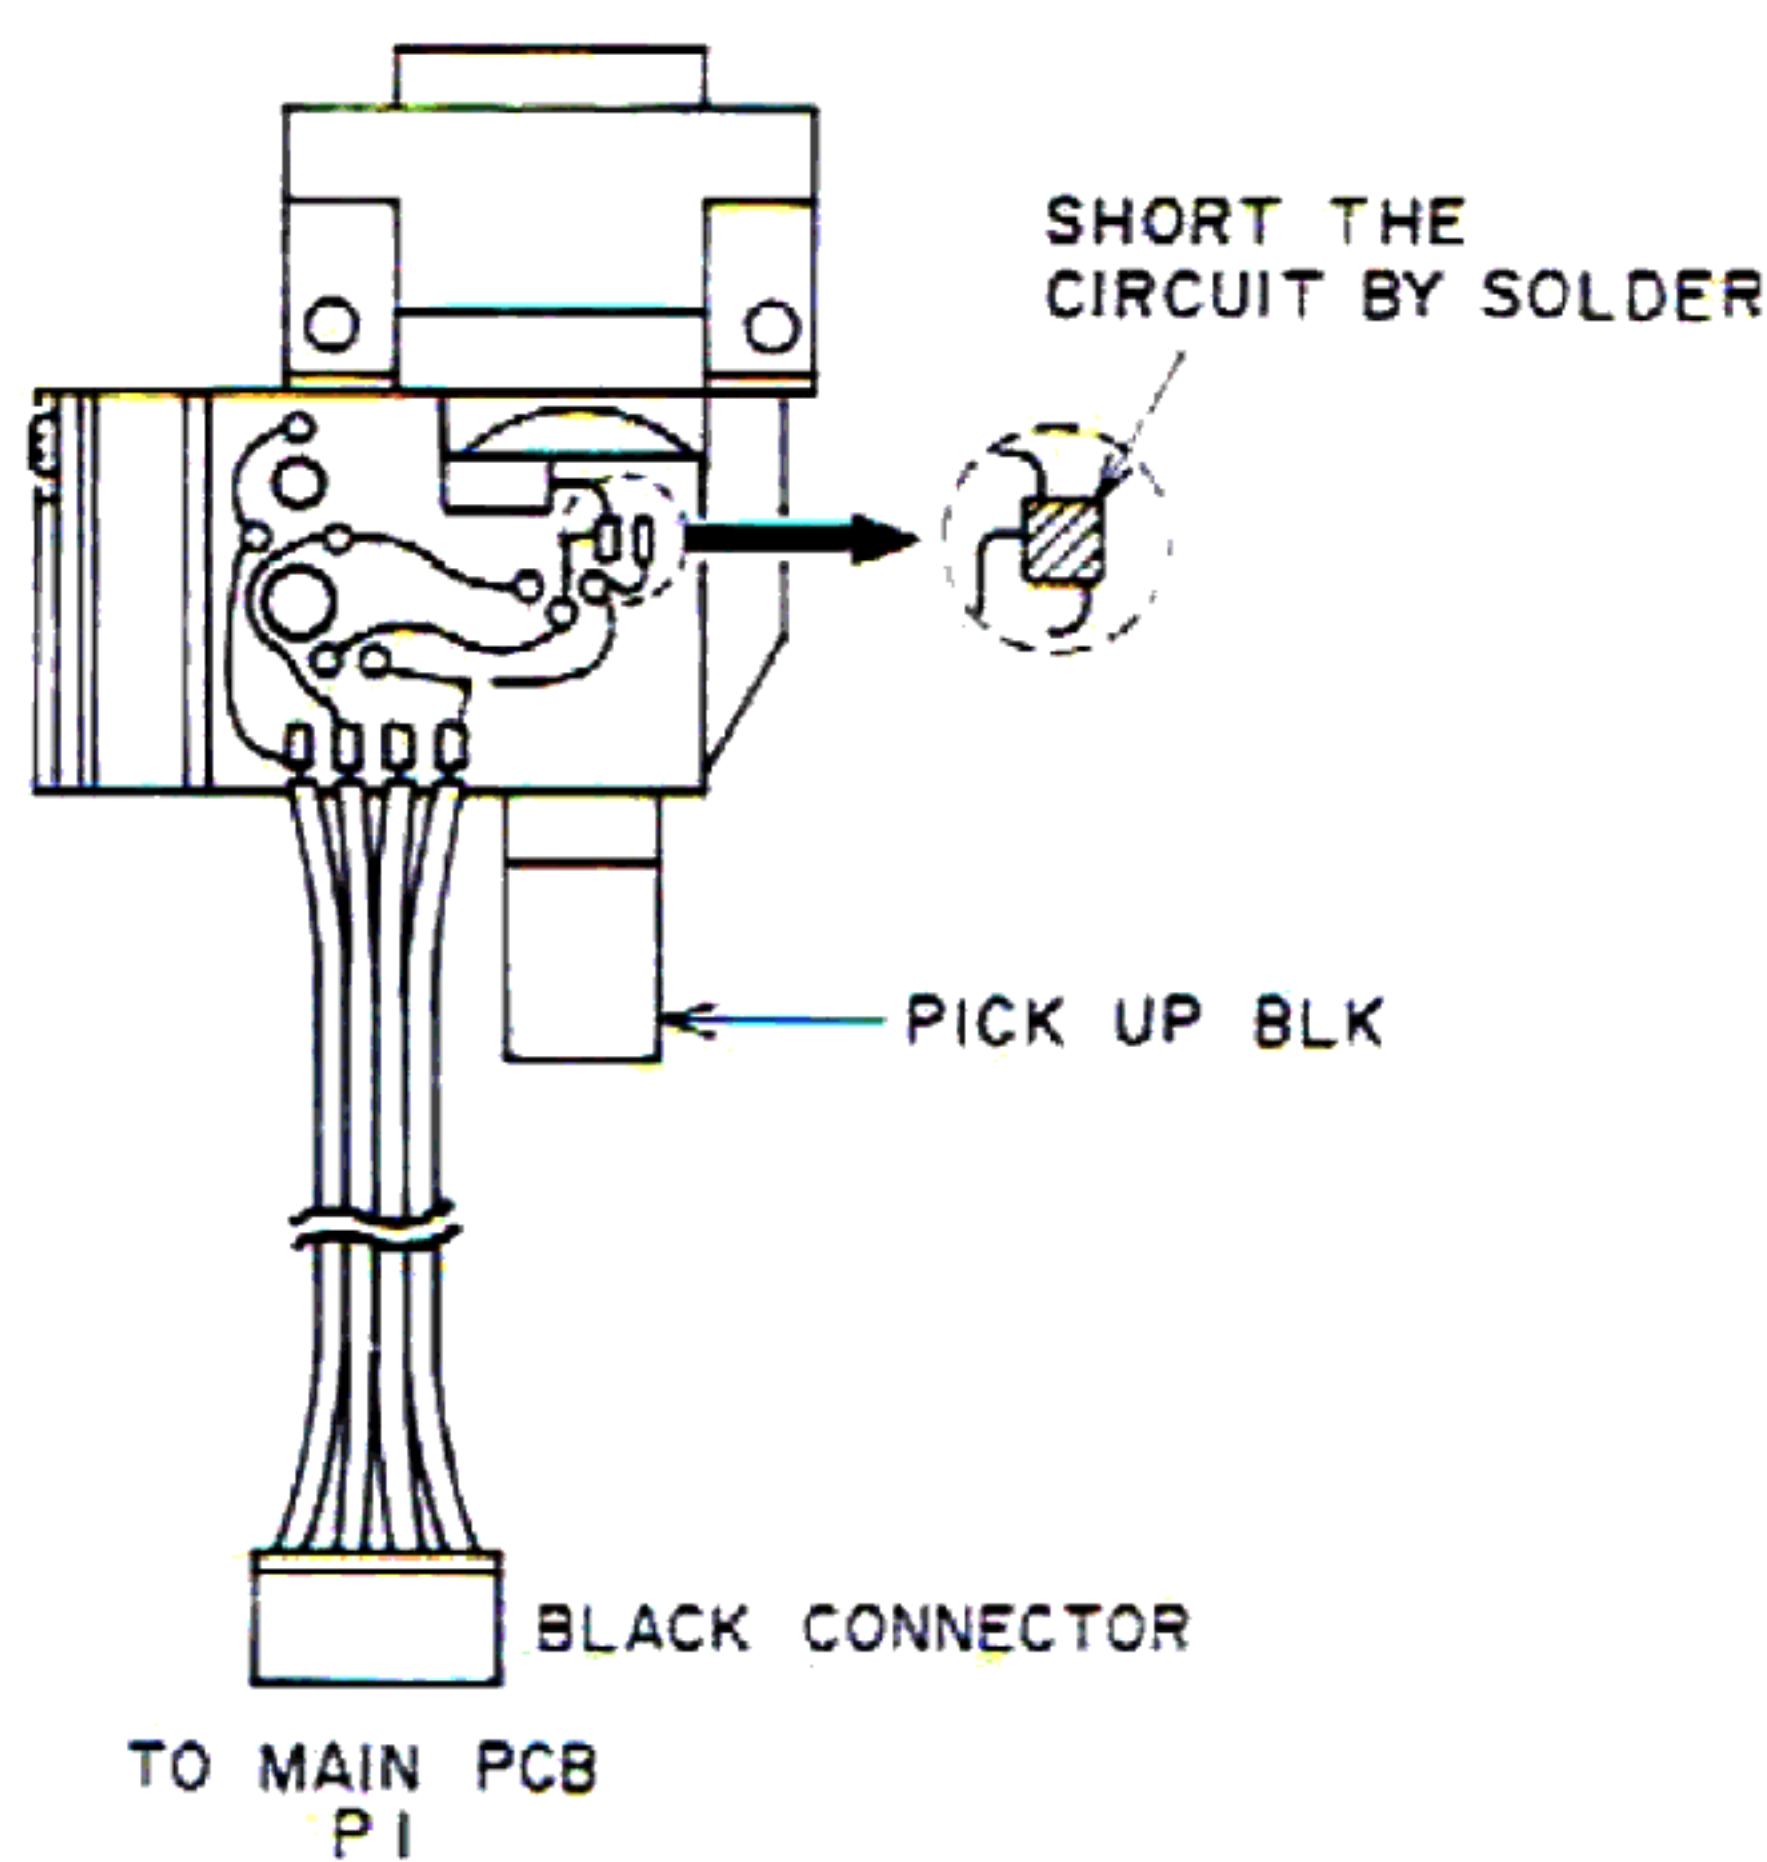

Fig. 4-1
- 3) When connection or disconnection the Black connector (P1), make sure that the P.C board is shorted circuit as shown Fig. 4-1.
- 3) Short the pick-up P.C board with solder. (Refer to Fig. 4-1)